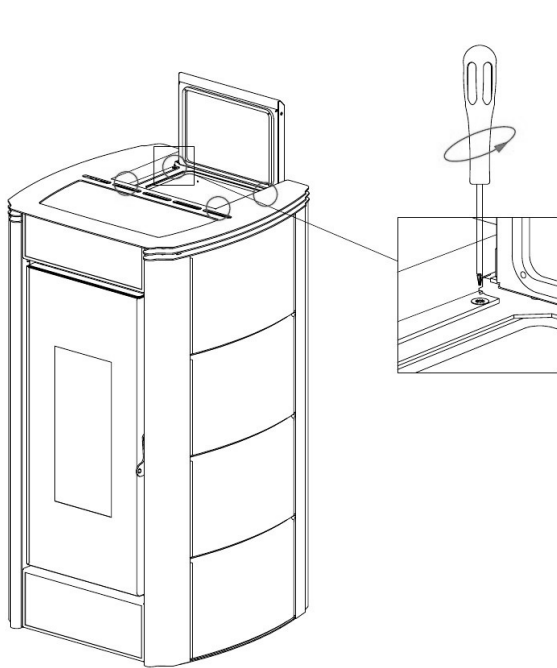

Fig. 34 - Remove screws
- Remove the cover: loosen the 4 upper screws (see **Fig. 34**).